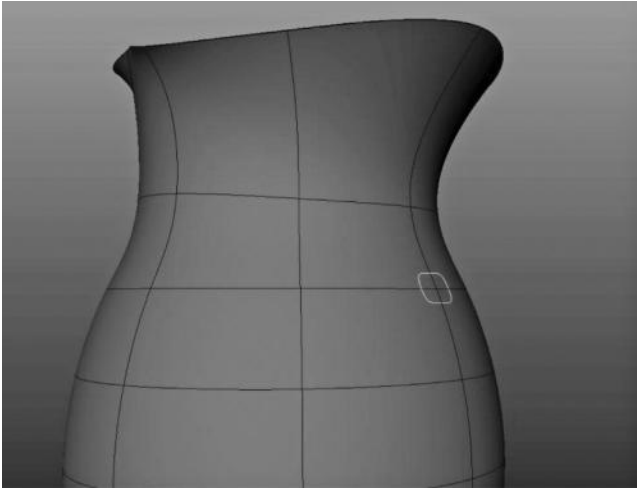

FIGURE 3.46 The projected curve, which is highlighted, is conforming to the shape of the surface.
**Projecting** a curve is taking a NURBS curve and making a duplicate of it that conforms to the shape of the surface. This is accomplished by using the U and V elements of the surface to contour the curve to the shape. Because every NURBS surface is essentially a flat ribbon, we can take any curve and “stick” it to that surface. After doing so, the “projected” curve will automatically adhere itself to the 2D surface, and will only be able to move in the NURBS surface U and V (it will no longer have three axes of movement). Figure 3.46 shows a NURBS curve that has been projected onto a NURBS surface, and the resulting curve-on-surface has been